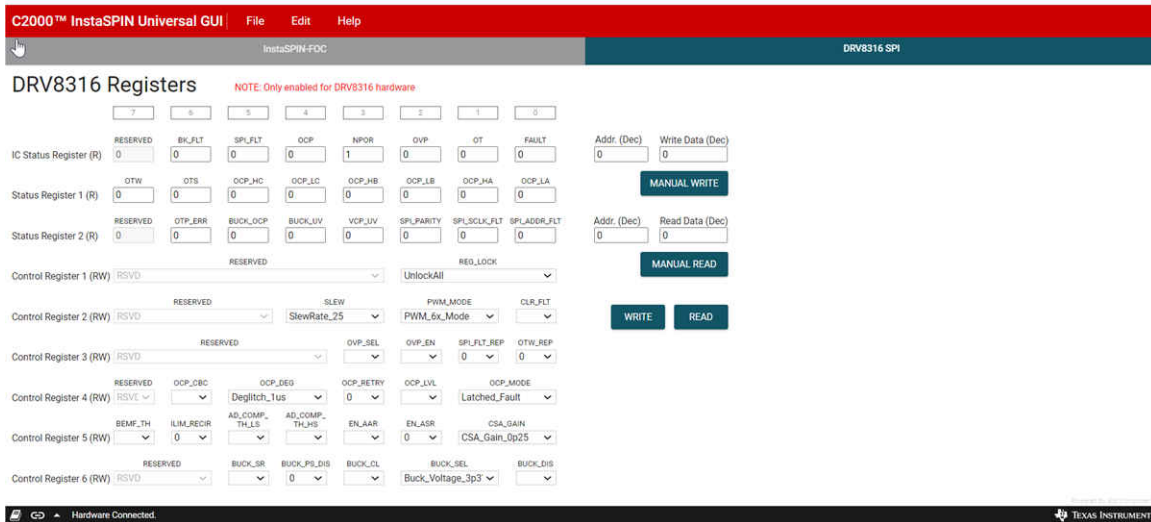

Figure 6-5. SPI Communication Using the DRV8316xEVM InstaSPIN™ GUI
1. Click on the “DRV8316 SPI” tab to access the DRV8316 Registers as Figure 6-5 shows.